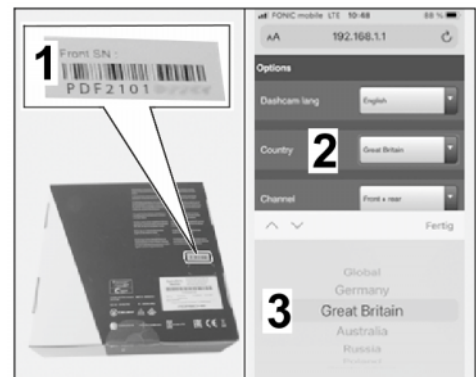

Figure 22
- 5.3.2 Select the country (⇒ *Figure 22*).